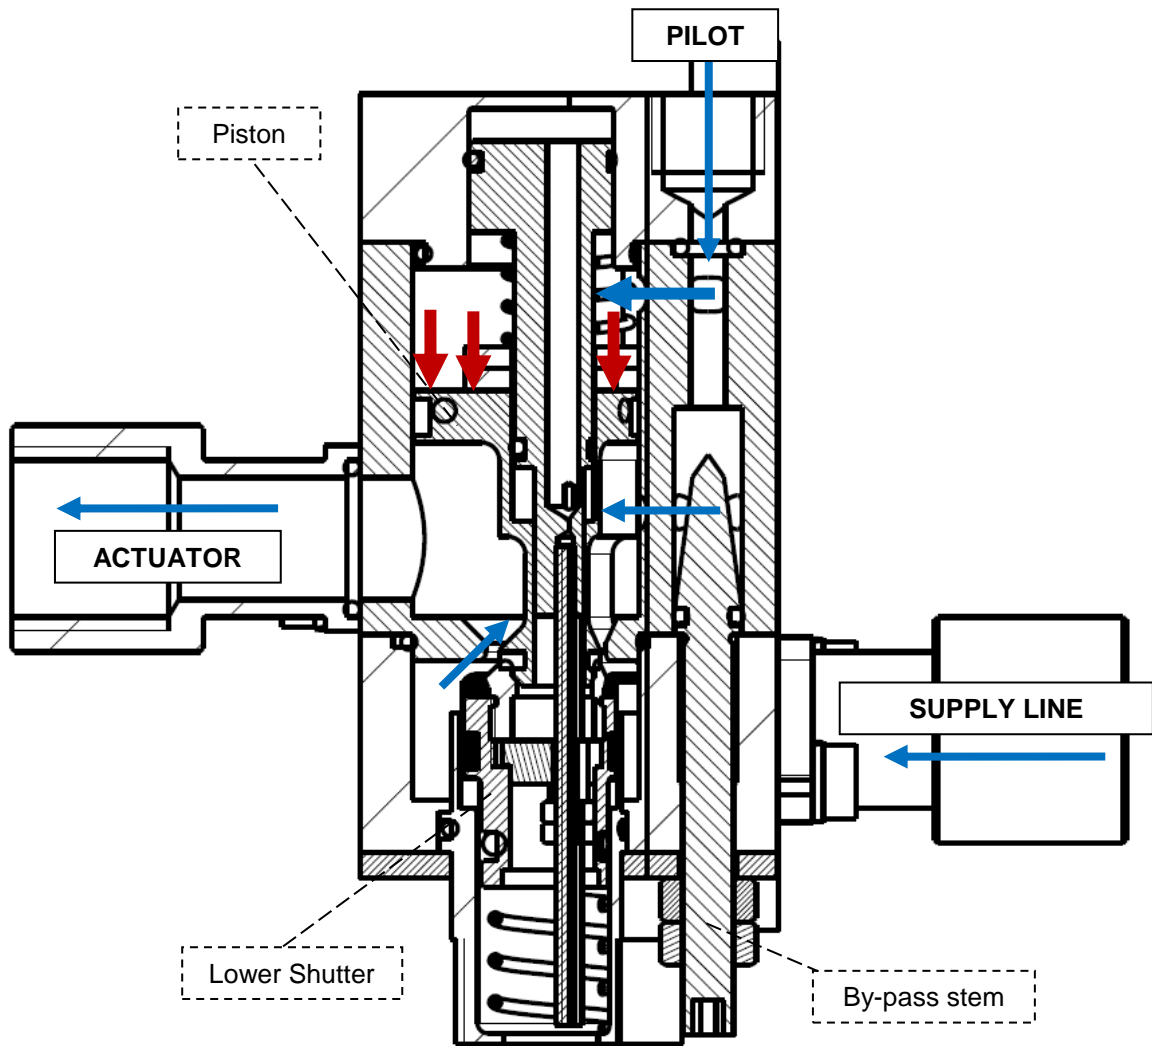

Figure 7 – Charge setup: modulating model
- b) if the flow rate is greater than a threshold value depending on the by-pass stem adjustment, the by-pass stem throttling generates a pressure drop between the two side of the piston and the working fluid pushes down the piston and the lower shutter, allowing the connection between the BR supply and the actuator chamber. This case is called "modulating mode" (figure 7);